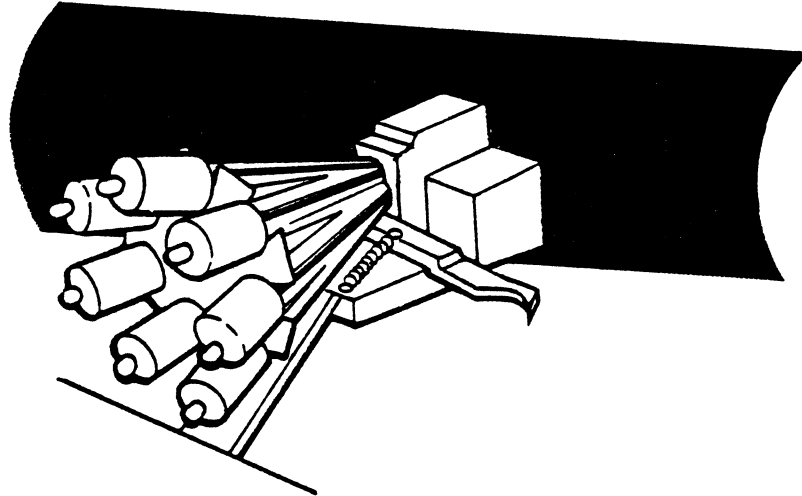
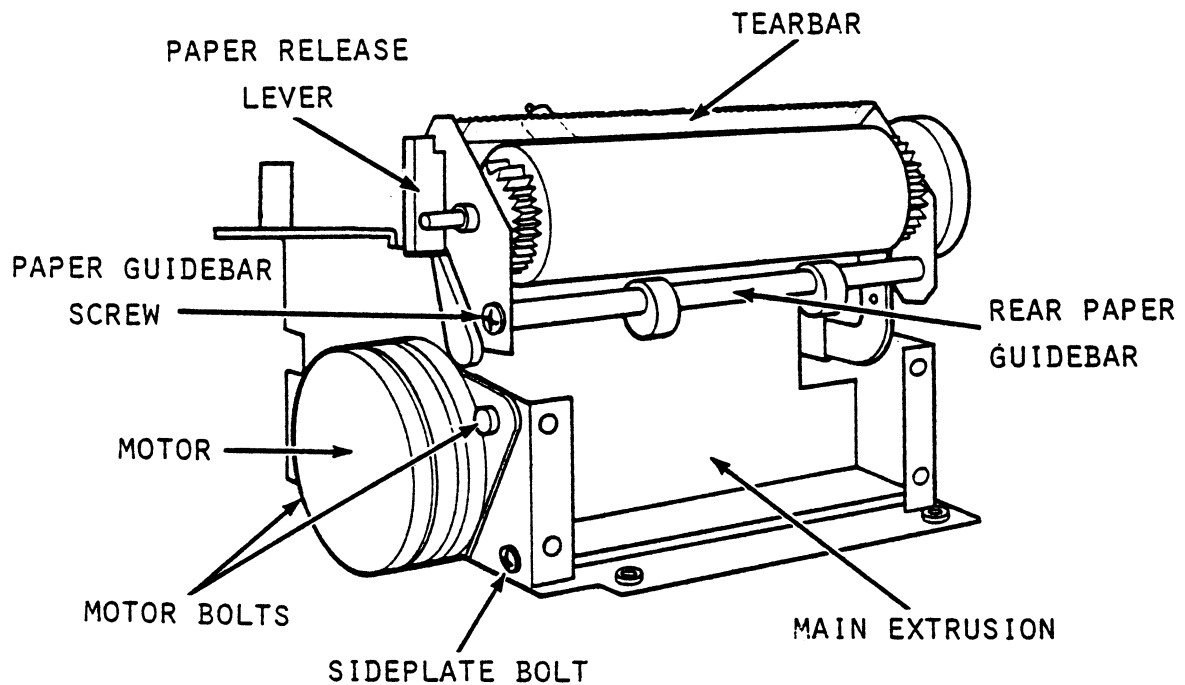

Figure 5-6. Print Head to Platen Gap
Figure 5-7. Printer Mechanism—Component Location
2. Using the feeler gauge measure the print head to platen gap at .012" to .015". (Refer to Figure 5-6)
(Refer to Figure 5-6)
(Refer to Figure 5-6 and Figure 5-7)